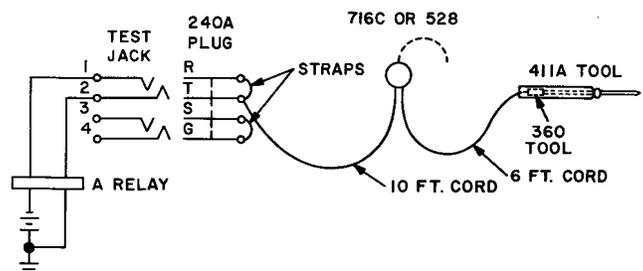

Fig. 1
2.02 One 240A plug (wired as shown in Fig. 1).
Note: Test receiver cord may be made up locally and connected permanently to 240A plug as shown in Fig. 1.